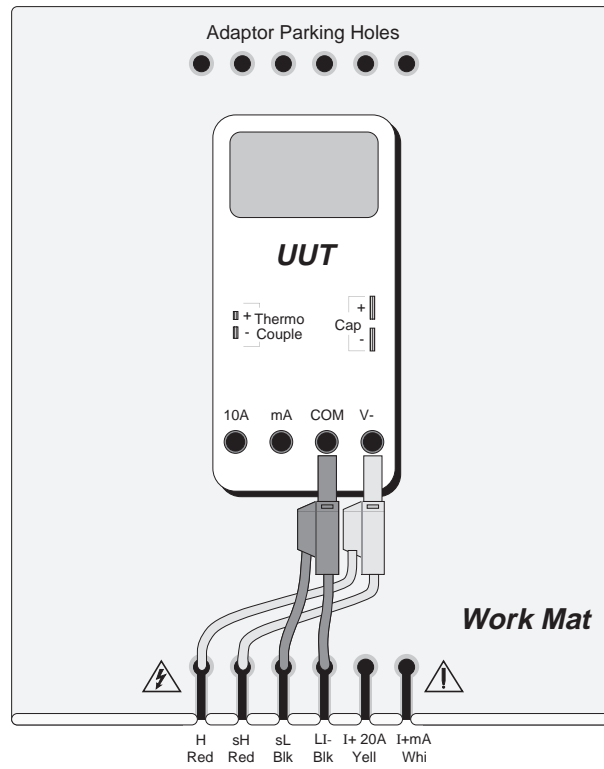

Fig. 11.1 Connections for % Duty Calibration
1. Connections Connect the 9100 to the UUT as shown in Fig. 11.1, and ensure that both instruments are powered ON and warmed up.
Connect the 9100 to the UUT as shown in *Fig. 11.1*, and ensure that both instruments are powered ON and warmed up.